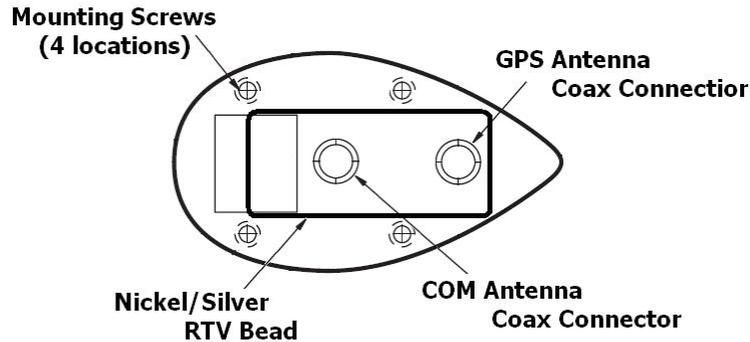

Figure 23-13 COM/GPS Antenna Conductive Sealant (bottom view)
9. Apply a bead of electrically conductive, MMS-040 Silver Coated Nickel Electrically Conductive RTV Silicone (Moreau Marketing & Sales, [http://http://www.rmoreau.com](http://www.rmoreau.com)) along the inner edge of the gelcoat/carbon interface, taking care to stay a safe distance from the antenna cable hole. The goal here is to apply just enough RTV to get good contact between the antenna base and the carbon, but not so much that the RTV creeps out from under the antenna base when the antenna is installed. See Figure 23-13 for details of the location for the RTV sealant.